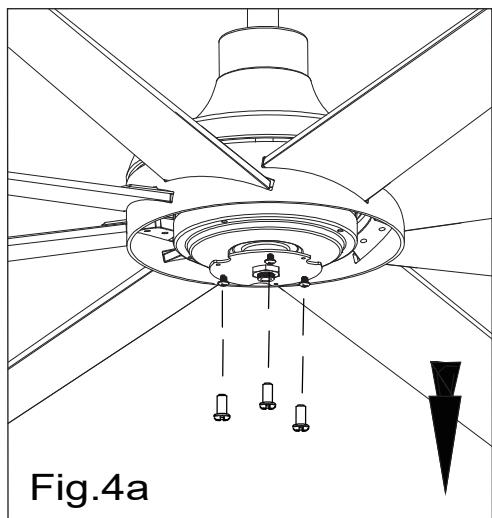

Fig.4a
- Remove light kit screws. (Fig.4a)